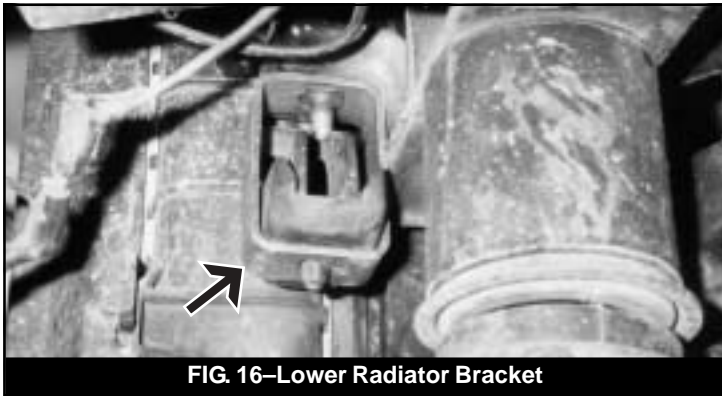

FIG. 16—Lower Radiator Bracket
52. Mount the relocations brackets (Fig. 16) to the stock lower mounting brackets using two 5/16" x 1" bolts and 5/16" USS washers into the u-nuts installed on the relocation bracket. Do not tighten at this time.